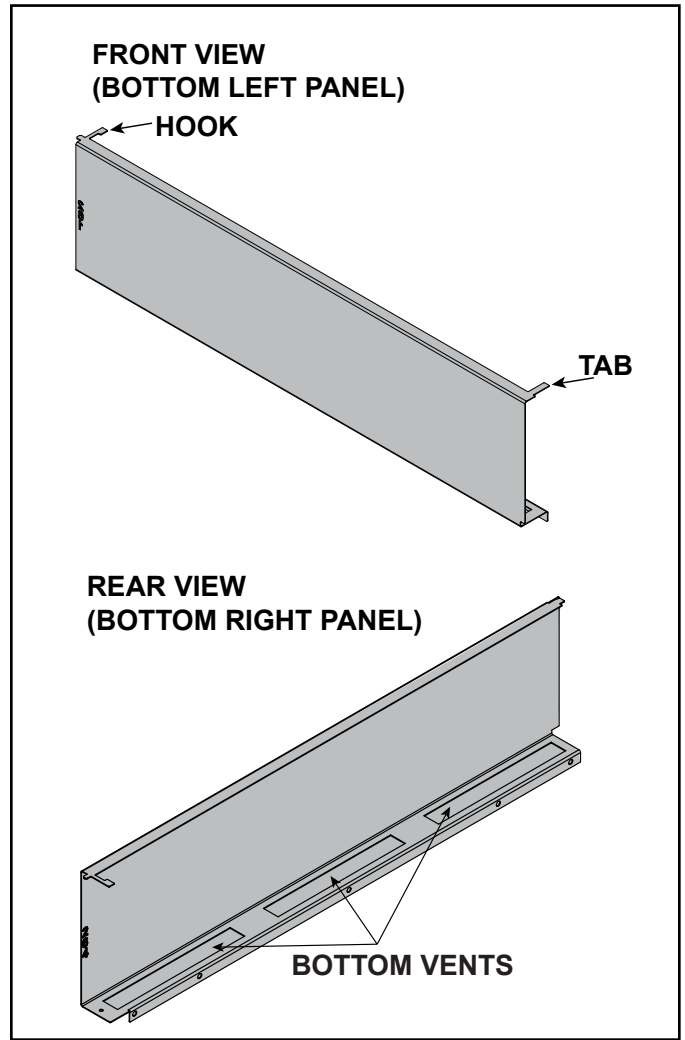
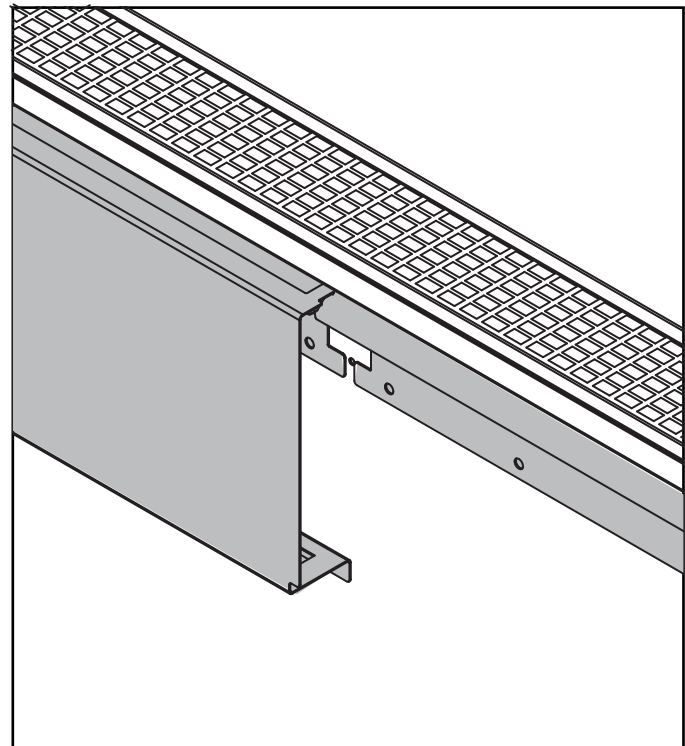

Figure 10 Bottom Panel Vents (Bottom Left Panel Shown)
Figure 11 Bottom Left Panel Installed
- Place the bottom left panel so that the vents are directed toward the bottom of the appliance. See Figure 10. Align the top bend with the sheet rock ledge on top. Interlock the top left outside hook and then engage the center top tab with the slot on the bottom rail. Hold top edge flush. Install the bottom screws. See Figure 11.